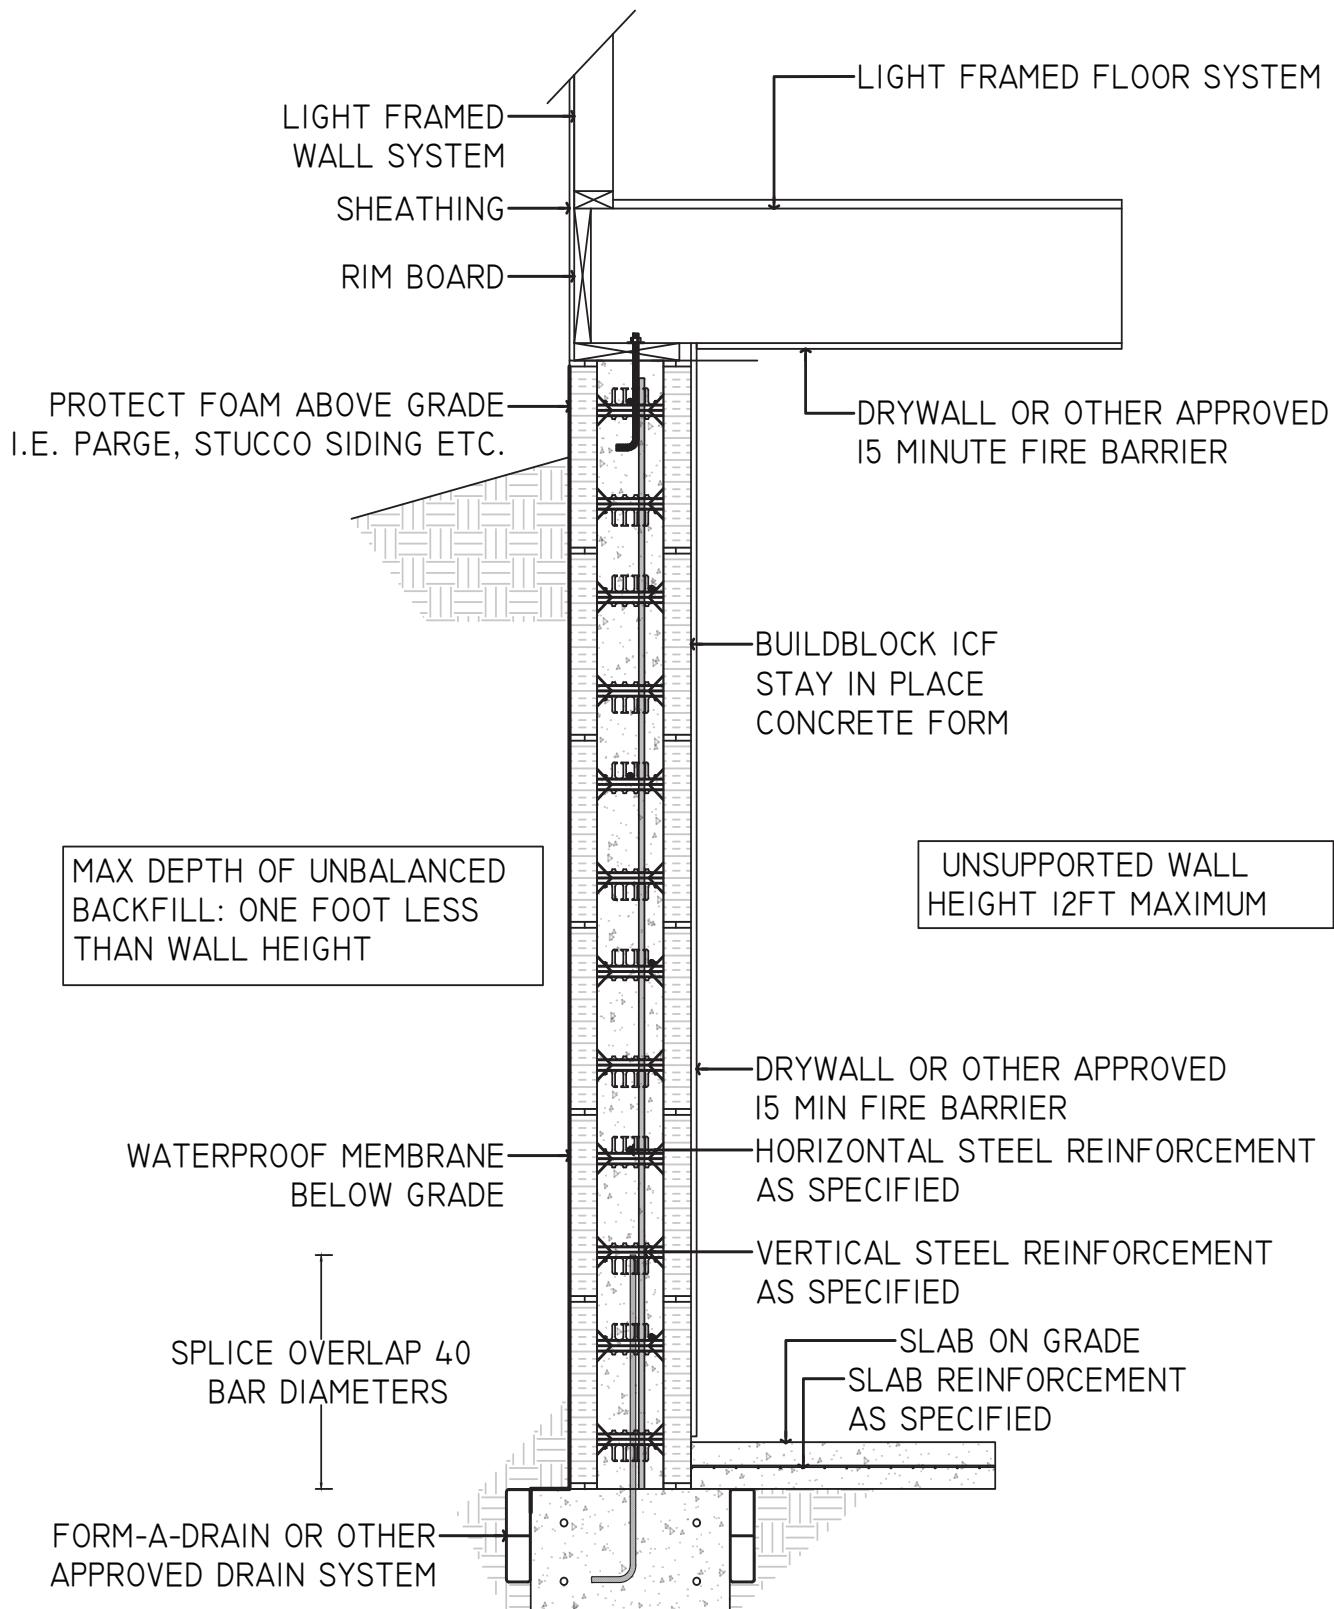

FIGURE 5.4A TYPICAL BELOW GRADE BUILDBLOCK WALL SECTION CUT THROUGH FLAT WALL OR VERTICAL CORE OF SCREEN GRID WALL. SUPPORTING LIGHT FRAMED WALL.
3. Determine the unsupported wall height. See Figures 5.4A and 5.4B for Typical Below Grade BuildBlock Wall